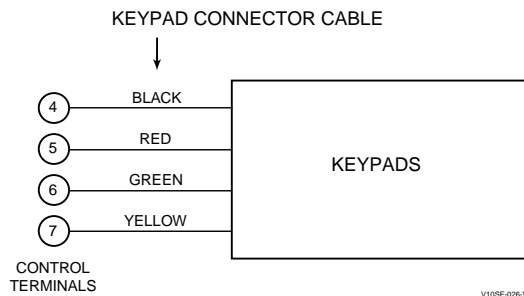

Figure 5. Keypad Connections to the Control Board
- Connect remote keypads to terminals 4, 5, 6, and 7 on the control board, as shown in Figure 5.